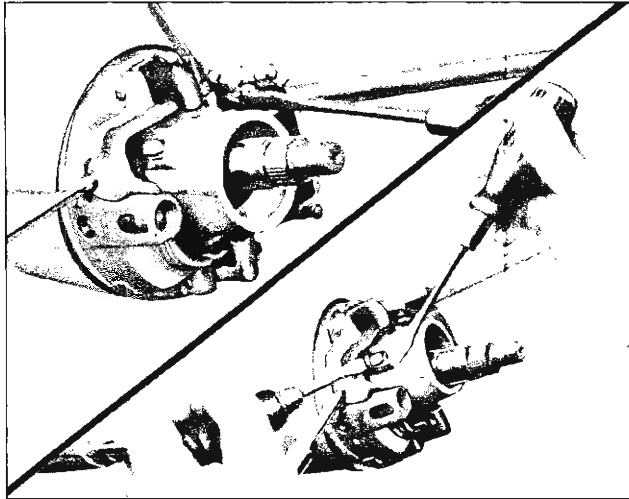

Fig. 21—Unseating Return Springs
9. Using a screwdriver, unseat the upper ends of the tilt return springs (fig. 21).